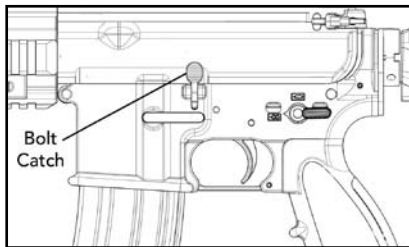

Fig. 18 – Depressing Bolt Catch to Chamber a Cartridge
6. Depress the upper portion (paddle) of the bolt catch. The bolt should go forward, stripping the top cartridge from the magazine and feeding it into the chamber (Fig. 18).